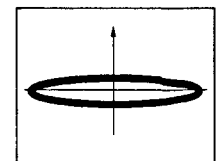

Fig. 2
4. Fine-adjust the grating so that the Y-axis amplitude of the Lissajous figure is minimized. (Fig. 2)